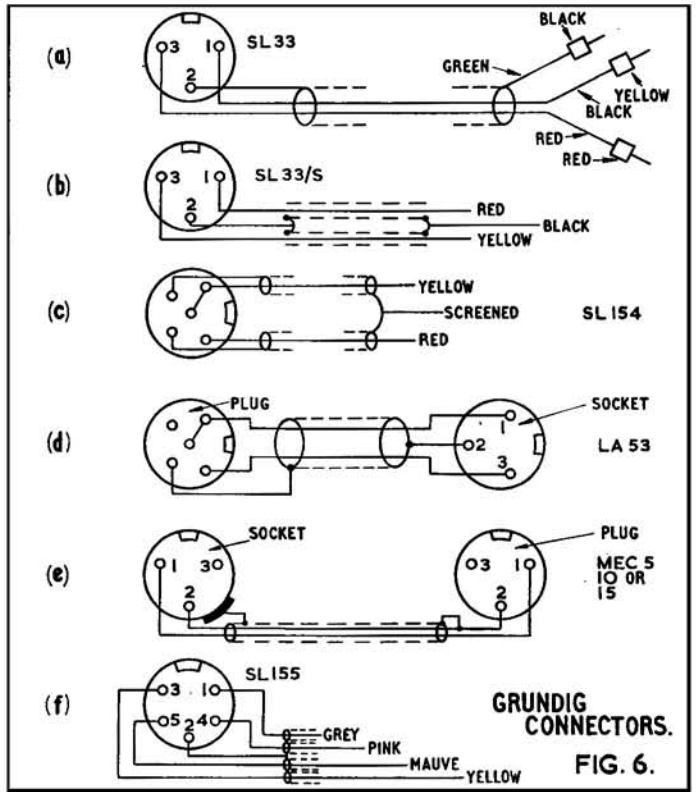

FIG. 6. GRUNDIG CONNECTORS.
To complete the picture, a few Grundig leads are shown in fig. 6. The 6ft. long SL33 (a) is used with many machines, from the TK5 to
A representative circuit of this kind is shown in fig. 6. Here a triode valve is used and this may pick up signal either direct from the playback head or from the output of a pentode amplifier which itself is connected to the head.
By arranging suitable values for the capacitor (C) and the resistor (R), equalisation to match any tape speed is possible. It is not necessary to alter both C and R. In practice one of the other is switched. In the circuit of fig. 6 it is the R element which is switched.
Note that the time-constant in the circuit of fig. 6 is derived by multiplying the selected feedback resistor in *megohms* by the series capacitor in *pF*. The time-constant is then given in μS . For example, at $1\frac{7}{8}$ i/s the time-constant is 2.2 times 180. This works out to a little under 400 μS , corresponding to a turnover frequency of 0.4 Kc/s or 400 c/s.